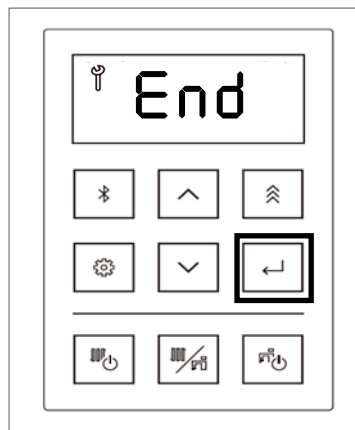

Figure 156
20. Push the Select button, and the display shows "End" (Figure 156).